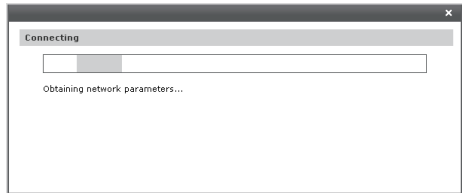

Figure 5-10 WAN Connection Type - Dynamic IP
- 2) If your ISP assigns the IP address automatically, please choose the Dynamic IP connection type to obtain the parameters for WAN port automatically. The process for obtain the parameter may take a few minutes as Figure 5-10 shows. If you close the screen during the process, the configuration will still be continued in the background.